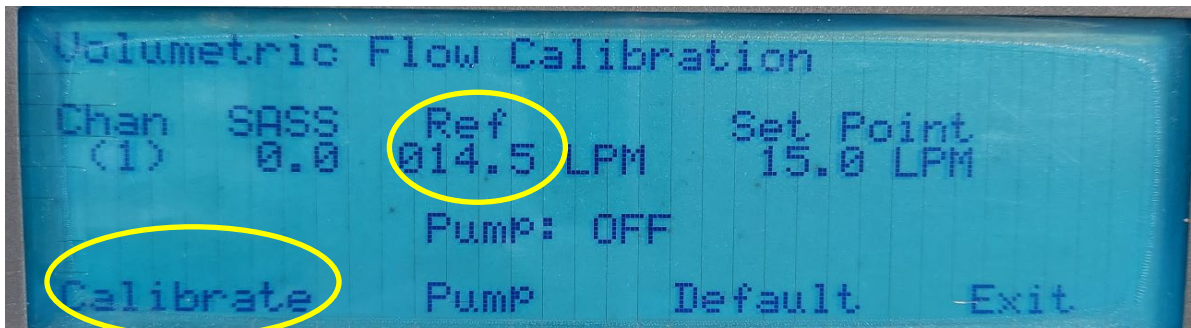

Figure 23: Setting up the reference point based on Alicat Flow meter reading.
- 3.4.5 In the sampler's Volumetric Flow Calibration menu, use the left to right arrow keys to move the column and the up and down arrow keys to change the reference value, to enter the flow meter's flow reading in the **Ref** column then press the "**Calibrate**" key (Figure 23).